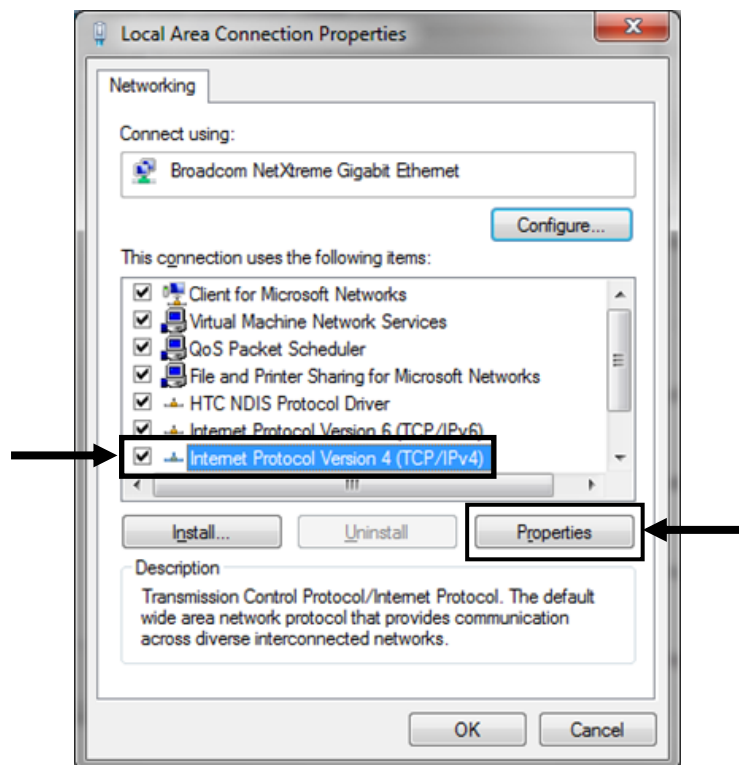

Fig 103. “Internet Protocol Version 4 (TCP/IPv4)” Button and “Properties” Button
- Select “Internet Protocol Version 4 (TCP/IPv4)” and then click the “Properties” button (Fig 103). This will allow you to set the IP settings for the adapter.